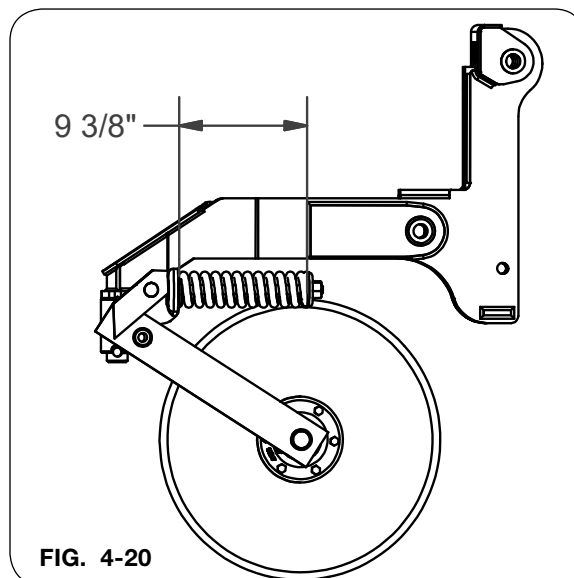

FIG. 4-20
4. Tighten bolt until the spring is compressed to 9 3/8" (FIG. 4-20).